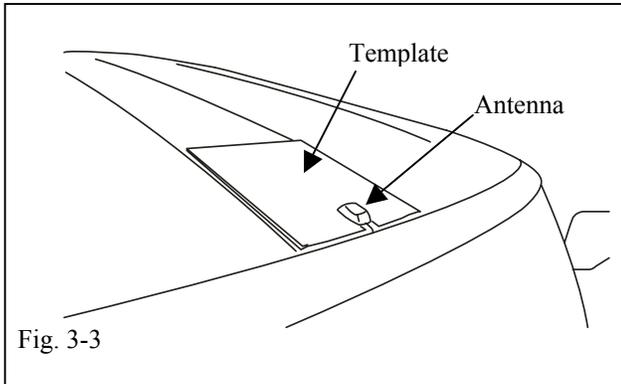

Fig. 3-3
**NOTE:** Align the antenna with the template as shown and install it carefully. Once attached, the antenna cannot be easily removed. (Fig 3-3)